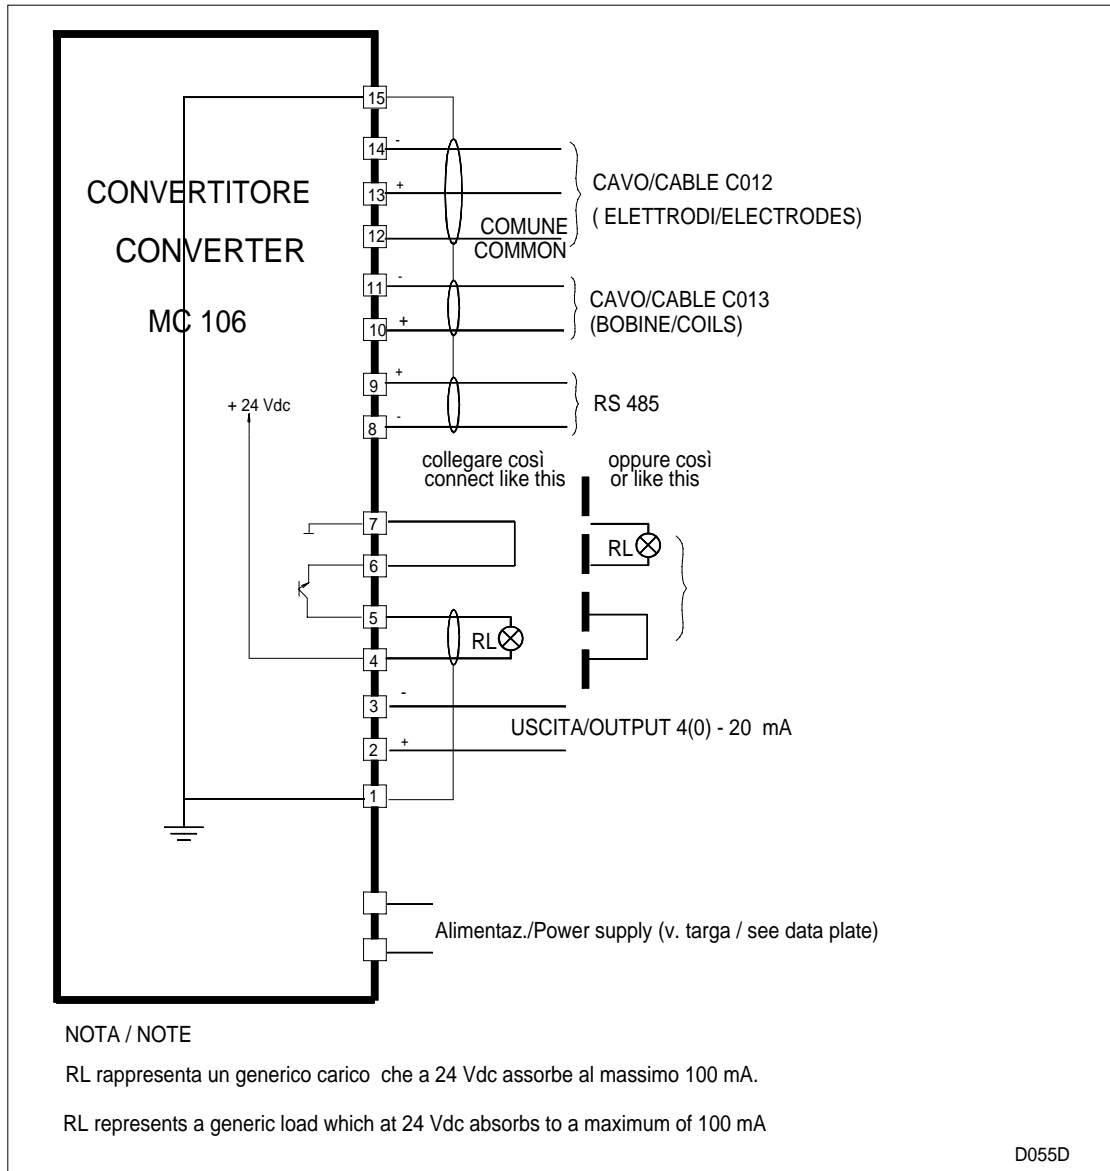
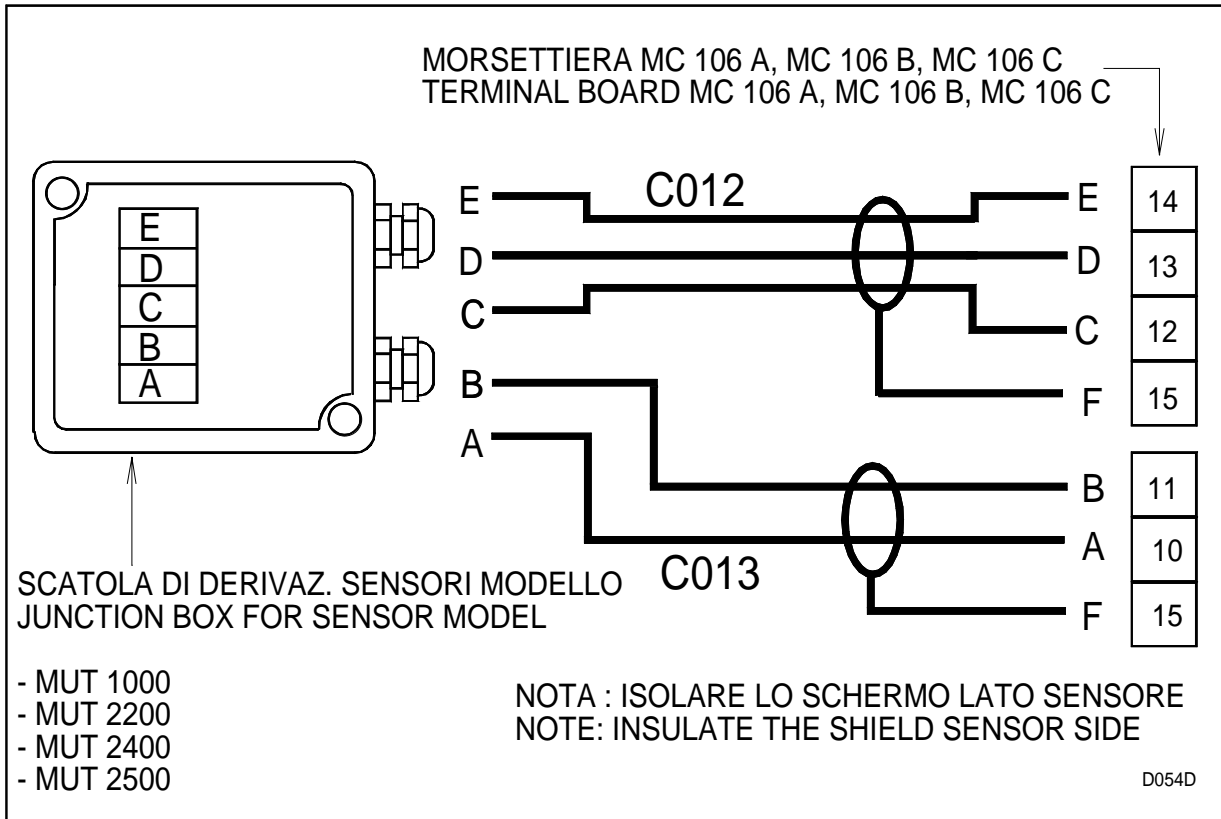

Fig. 3
Fig. 4
Fig. 3 shows the connection board of the converter and the function of each terminal.
The connection between converter and sensor is made by the two cables C012 and C013 following carefully the instruction illustrated in fig. 4.
12.3.2 - In addition to connection of the cables C012 and C013 as illustrated in fig. 4, the following must also be connected (see fig. 3):